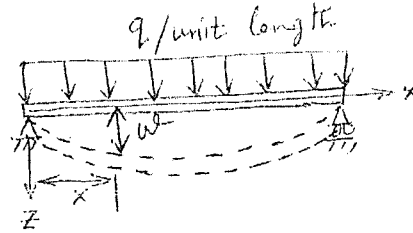

Figure 1: An Euler-Bernoulli beam
3. [10 points] An Euler-Bernoulli beam of constant flexural rigidity EI is simply supported at its ends $x = 0$ and $x = L$ and has a uniformly distributed load q (per unit length) acting on it as shown in Fig. 1. Use the minimum potential energy theorem to determine the transverse